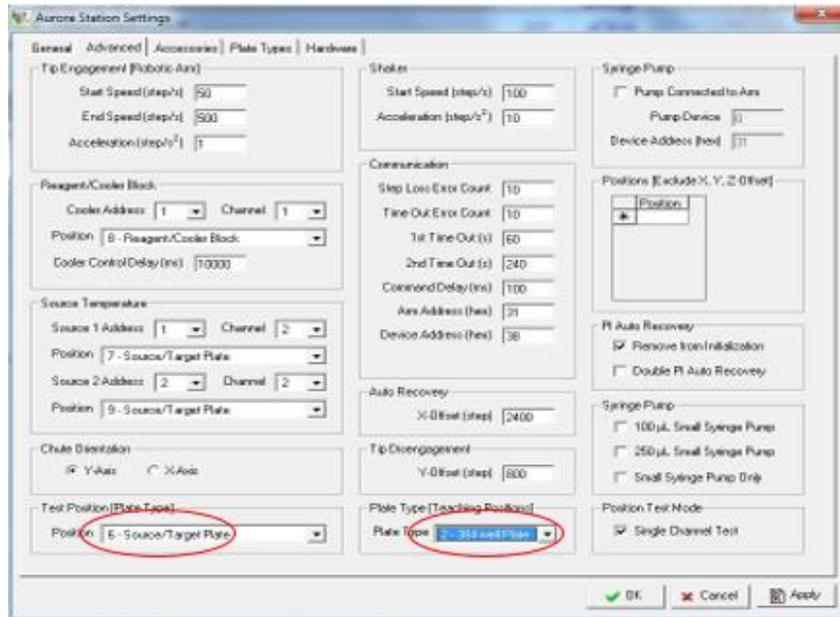

Figure 9-87 Setting the Tip Box Position and Plate Position for Calibration
3. First ensure that the test position for both the tip box and plate type are set by clicking onto the “advanced” tab in Aurora Station Settings. To change or set it, click on the arrow to open options and select the position of choice. Remember that if you select for position 1 (as an example) for 20/50/200 μL tip box that you must place a tip box in position 1 on the deck available. You will need to “reload” tip boxes. The same goes for the plate type you want to test. If the test position for your plate is selected as 5, the appropriate plate type for test should be in that position (*Figure 9-87 Setting the Tip Box Position and Plate Position for Calibration*).